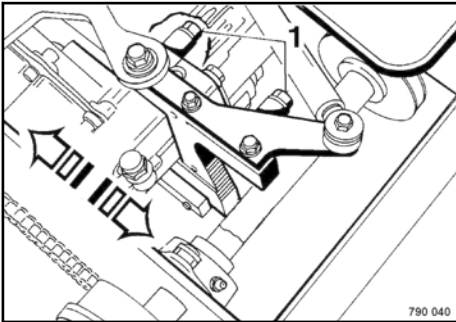

Fig. 53
Loosen the transmission fastening screws (1) ↗ Fig. 53.